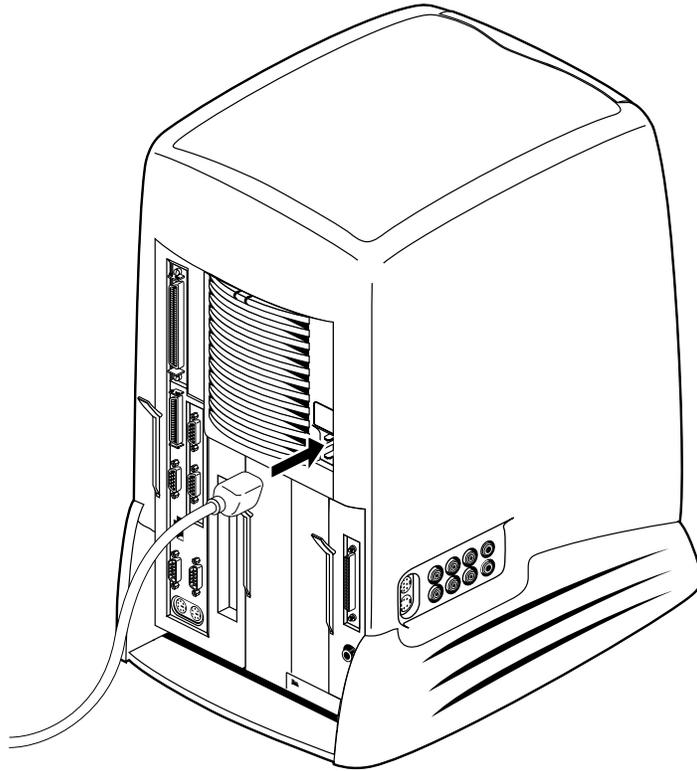

Figure 1-26 Connecting the Power Cable
4. Reconnect the power cable and any other cables you removed (Figure 1-26) except for the monitor cable.